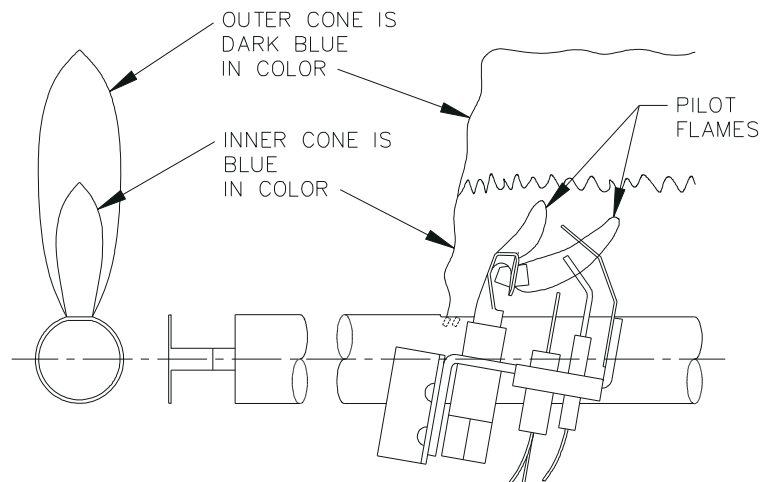

Figure 5: Pilot and Main Burner and Flames
6. Check pilot flame. See Figure 5. The pilot flame should be medium blue covering approximately $\frac{3}{8}$ " to $\frac{1}{2}$ " (10 to 12 mm) of the sensing probe. If the flame is yellow and lazy, follow instructions TO TURN OFF GAS TO APPLIANCE (see Figure 4), and contact qualified service agency.
7. Check main burner flames. See Figure 5. The flames should have clearly defined inner cones approximately $1\frac{1}{2}$ " (40 mm) high and should have a very sharp blue color characteristic. If the flame is yellow and lazy, follow instructions TO TURN OFF GAS TO APPLIANCE (see Figure 4), and contact qualified service agency.